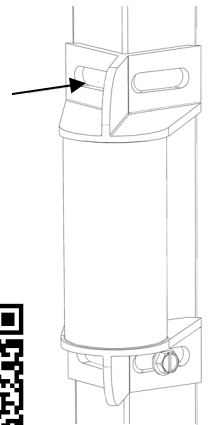

Fig. 1.2
- a. Place the top screw hole slot of the GTU (Fig. 1.2) approximately 9” below where the gas tank meets the frame, **OR** 1/2” above the lowest electrical outlet (**whichever location is lower on the generator frame**). These positions will ensure optimal placement for the GenTent Clamp (page 9, section h.).
- b. With the GTU in the desired position, mark the generator frame centered inside one of the top screw hole slot on the GTU. Then mark the center of the screw hole slot diagonally across from the first. (Fig. 1.2)
- c. Using a 5/32" drill bit, drill one hole centered on each of the marks made on the generator frame. (Fig. 1.2)